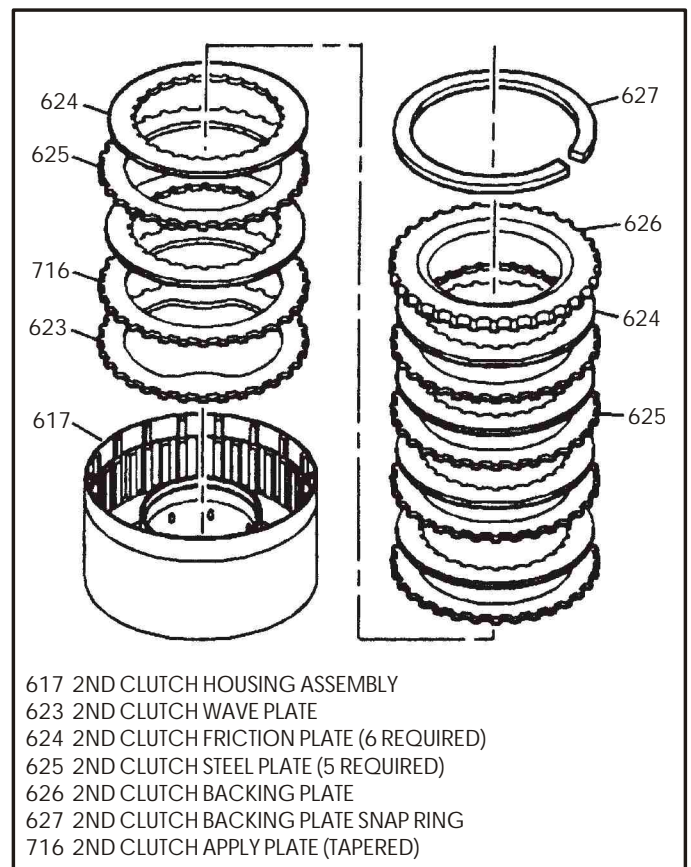

Figure 117
1. Remove the snap ring from the top of the 2nd clutch housing, and remove the entire clutch pack, as shown in Figure 117.